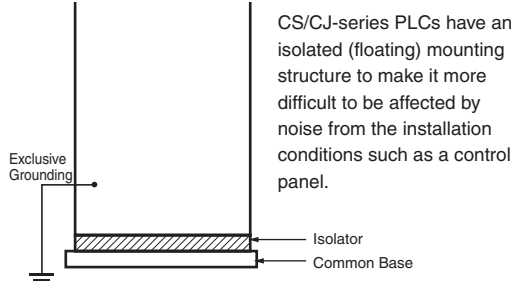

Figure 13. Example: Insulating and Grounding an Enclosure
(3) Grounding Precautions
- ① If the same ground is used for both the signal lines and the enclosure, isolate the channel base (a grounded metal plate inside a control panel) with an insulating material. (See Figure 13)